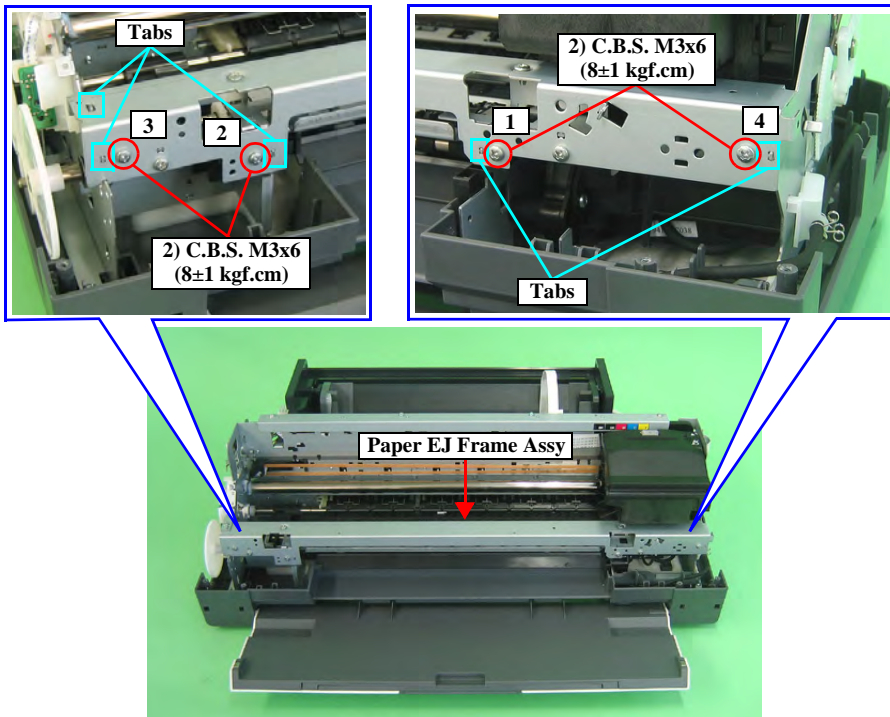

Figure 4-106. Screws that Secure the Paper EJ Frame Assy
See Figure 4-106 \(p.106\)
- Tighten the screws in the order shown in Figure 4-106